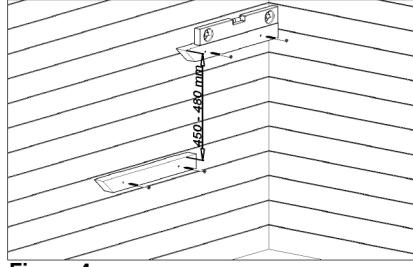

Figure 4
- Fasten the supports to the wall with screws. The height difference between the top and bottom bench levels should be 450–480 mm. Use a level to make sure that the supports are on the same horizontal line. If you wish to add a bench skirt to the sauna bench, calculate the respective height of the benches according to that. (Figure 4)